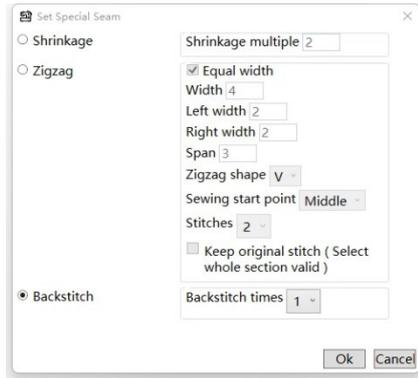

Fig. 5.3.10c Pop-up Window for Setting Special Seam Fig. 5.3.10d Error Pop-up Prompt
② Enter the batch editing page, select the start and end points of the special seam to be added, and click the edit button under Setting Special seam. The pop-up window is shown in Fig. 5.3.10c. If there is no point transfer, a pop-up window will appear indicating that the layer has not been transferred. As shown in the Fig. 5.3.10d.